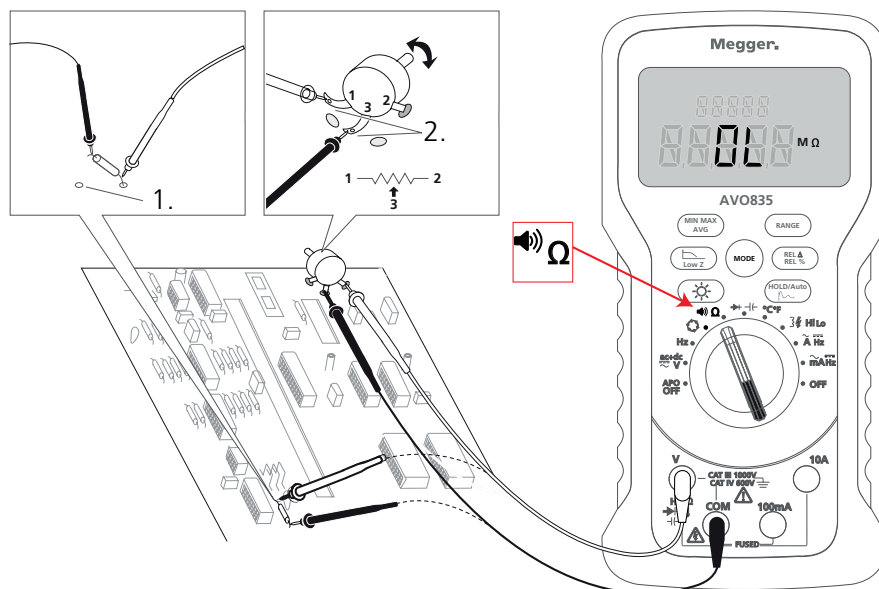

Fig 3: Resistance Measurement Set-up
2. Set-up the instrument as shown in Fig 3.